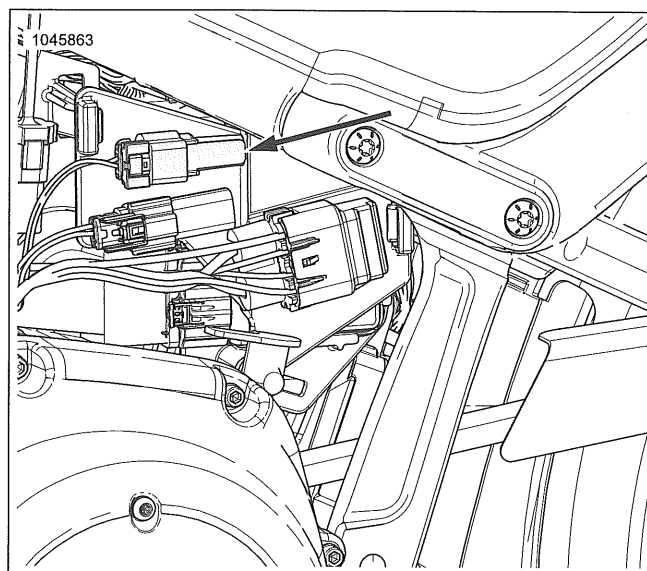

Figure 7-111. CAN Terminating Resistor
1. See Figure 7-111. Remove terminating resistor.
1. See Figure 7-111. Install terminating resistor.